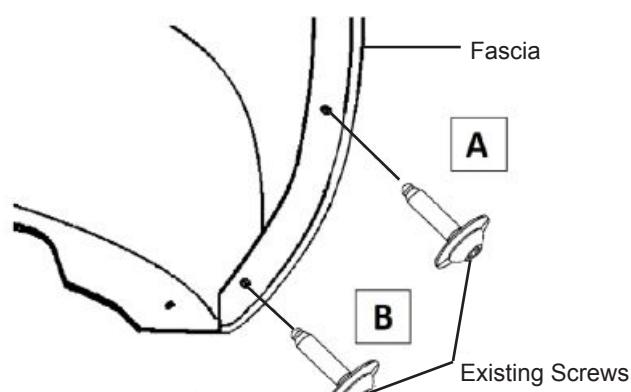

Figure 2
2. Mount splash guard and reinstall existing screws in location **A & B**, tighten while holding part up and into fascia. See **Figure 2** for left hand and **Figure 4** for right hand.
4. Pull splash guard out slightly from location **C**, install supplied U-Nut over drilled hole with threaded feature facing up on inside of panel for left hand (see **Figure 2**), facing up on top of the panel for the right hand side (see **Figure 4**).